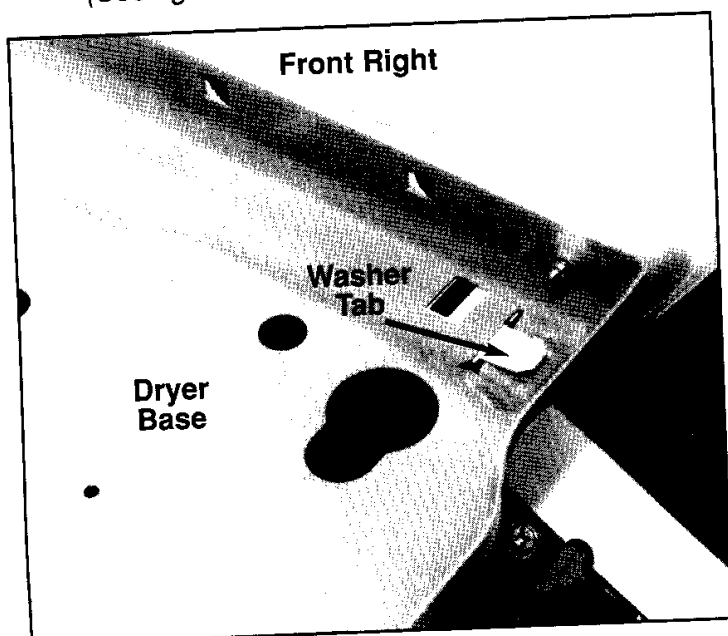

Figure 36
- 15.** Check to make sure the tabs on the washer are engaged in slots at the front of the base of the dryer. (See figures 36 & 37 – some components removed for clarity.)